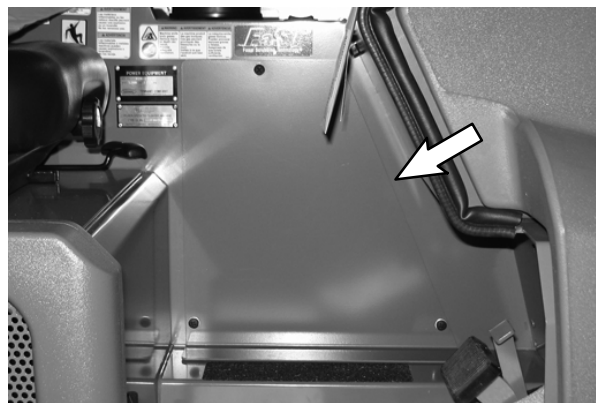

FIG. 1
4. Remove the engine access panel from the operator compartment. Set the mounting hardware aside. Discard the engine access panel. (Fig. 1)